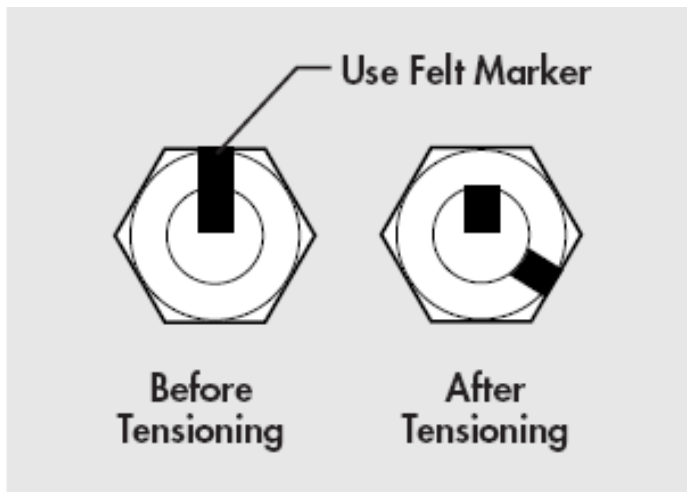

FIGURE 1-1A:
Step 5. Using a **Felt-Tip Marker**, mark the nuts and ends of the bolts with a straight line as shown above in **Figures 1-1a (Bolts shorter than 4 diameters) and 1-1b (Bolts longer than 4 diameters)**
- **Moved 1/3 TURN (120°)** as shown in **Figure 1-1a, shorter than 4 diameters** (“After Tensioning”)